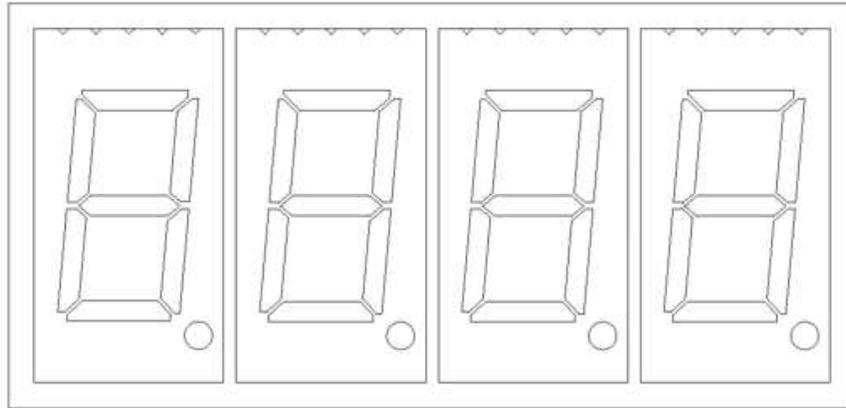

Figure 9 Seven segment LED display
- The seven segment LED display has 4 digits displaying capability which is shown in figure 9.